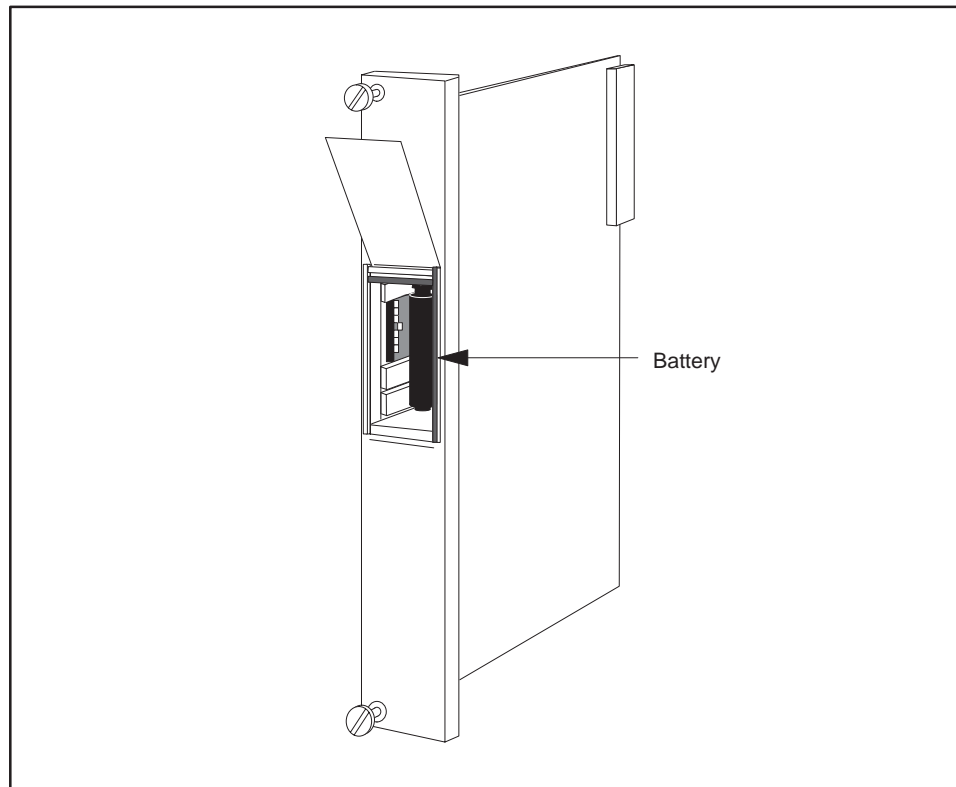

Figure 3-14 Battery Location for TI535 Models
2. Open the battery door as shown in Figure 3-14.